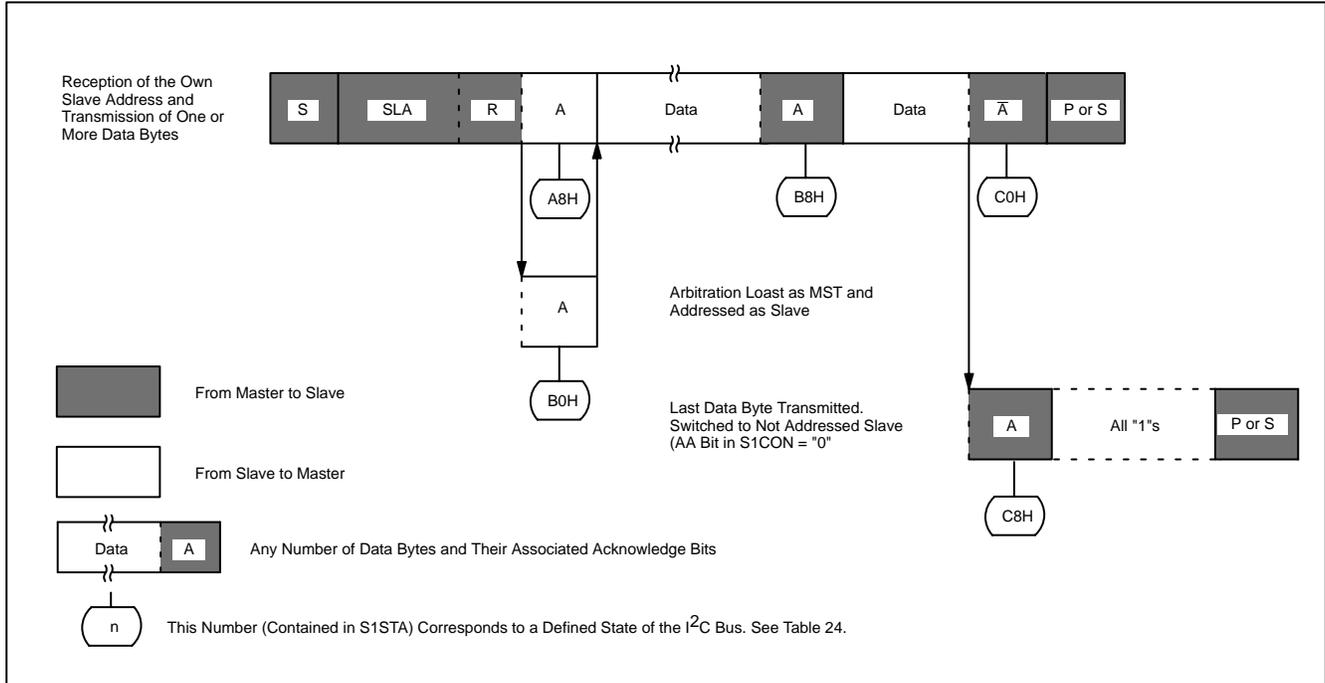

Figure 23. Format and States of the Slave Transmitter Mode
When SIO1 is in the addressed slave transmitter mode, state C8H will be entered after the last serial is transmitted (see Figure 23). When SI is cleared, SIO1 leaves state C8H, enters the not addressed slave receiver mode, and the SDA line remains at a high level. In state C8H, the AA flag can be set again for future address recognition.
In the slave transmitter mode, a number of data bytes are transmitted to a master receiver (see Figure 23). Data transfer is initialized as in the slave receiver mode. When S1ADR and S1CON have been initialized, SIO1 waits until it is addressed by its own slave address followed by the data direction bit which must be “1” (R) for SIO1 to operate in the slave transmitter mode. After its own slave address and the R bit have been received, the serial interrupt flag (SI) is set and a valid status code can be read from S1STA. This status code is used to vector to an interrupt service routine, and the appropriate action to be taken for each of these status codes is detailed in Table 24. The slave transmitter mode may also be entered if arbitration is lost while SIO1 is in the master mode (see state B0H).